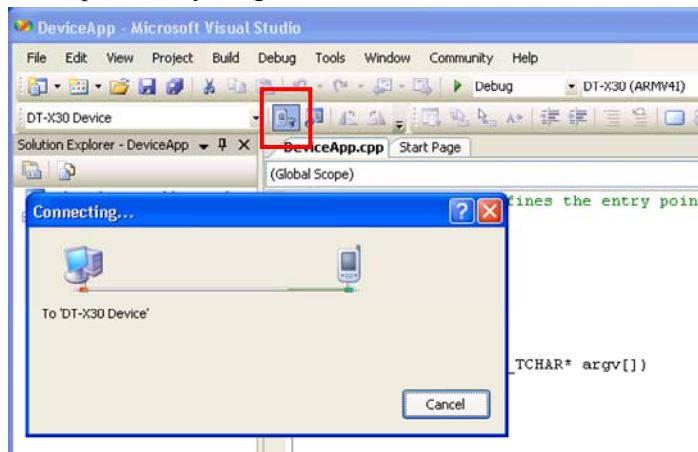

Figure 6.1
3. Click the button shown in the red box below (see Figure 6.1) to make sure that Visual Studio 2005 has recognized the connection established with the DT-X30 via ActiveSync. If it does not, start up ActiveSync again to establish connection.